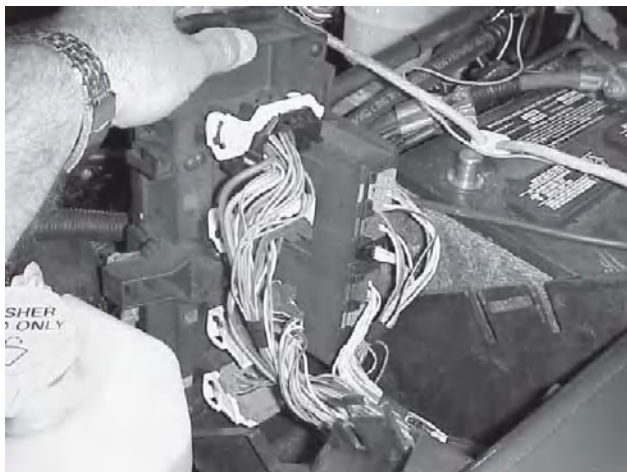

Fig. 5d
- c. Locate connector "G". Locate the Grey wire with pink stripe in cavity 14.(see figure 5d )